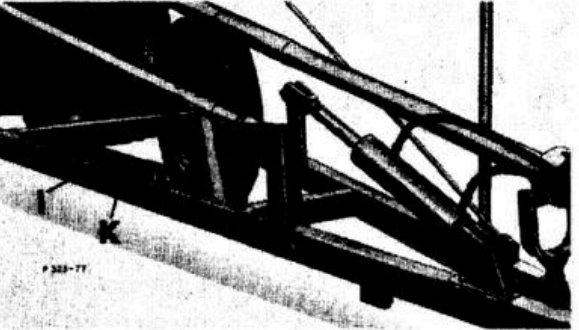

Figure 48
- NOTES: A. With cylinder installed, reposition stabilizer "T" (Fig. 48) to position shown. Tighten lock rod "K".